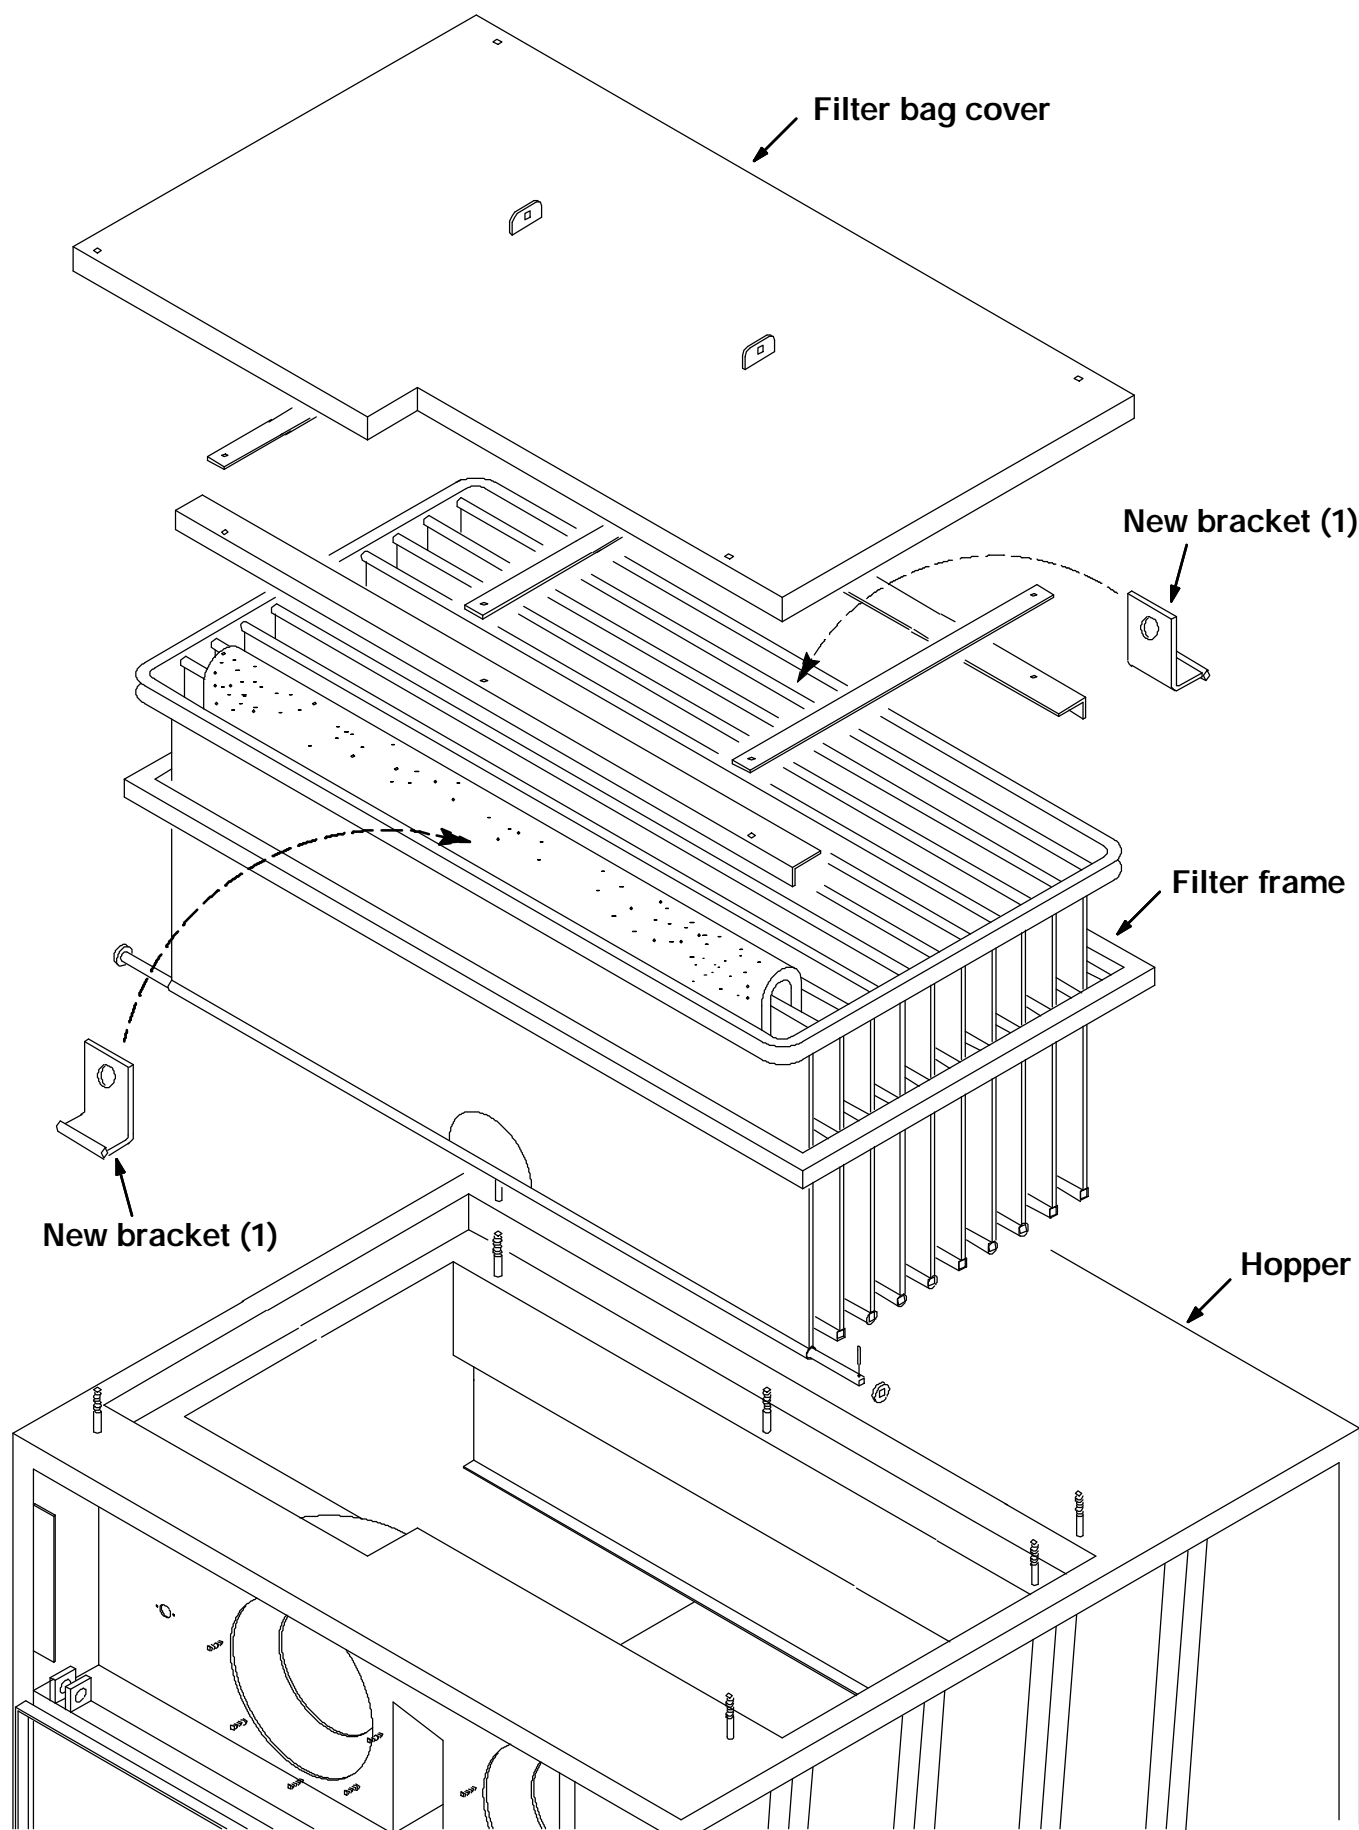

FIG. 1 - Filter Bag Assembly
(Refer to FIG. 1)
1. Remove the four M10 nyloc nuts and washers holding the filter bag cover to the hopper. (Refer to FIG. 1)
2. Lift the the filter bag cover off the machine. (Refer to FIG. 1)
3. Remove the six M8 nyloc nuts and washers holding the two long and three short filter brackets to the hopper frame. (Refer to FIG. 1)
4. Insert the two lifting brackets (1) in the first envelope on both the front and rear of the filter frame. The lifting brackets (1) are first placed in the horizontal position, then pulled up vertical. *Make sure the lifting brackets are centered on the frame.* Attach a chain or lifting strap in the holes in the lifting brackets. (Refer to FIG. 1)
5. Lift the filter shaker frame and filter out of the hopper. (Refer to FIG. 1)
1. Reinstall the filter shaker frame and filter back in the hopper. (Refer to FIG. 1)
2. Remove both lifting brackets (1). (Refer to FIG. 1)
3. Reinstall the six M8 nyloc nuts and washers. Tighten to 18 - 24 Nm (15 - 20 ft lb). (Refer to FIG. 1)
4. Reinstall the filter bag cover and four M10 nyloc nuts and washers. Tighten to 37 - 48 Nm (26 - 34 ft lb). (Refer to FIG. 1)